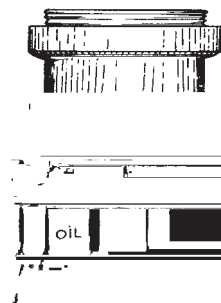

Fig. 3.5
- The image of the specimen first passes through the objective (Fig. 3.5). Objectives with magnifying powers 4x, 10x, 40x and 100x are commonly used. The magnifying power is marked on the lens and is usually colour-coded for easy identification.